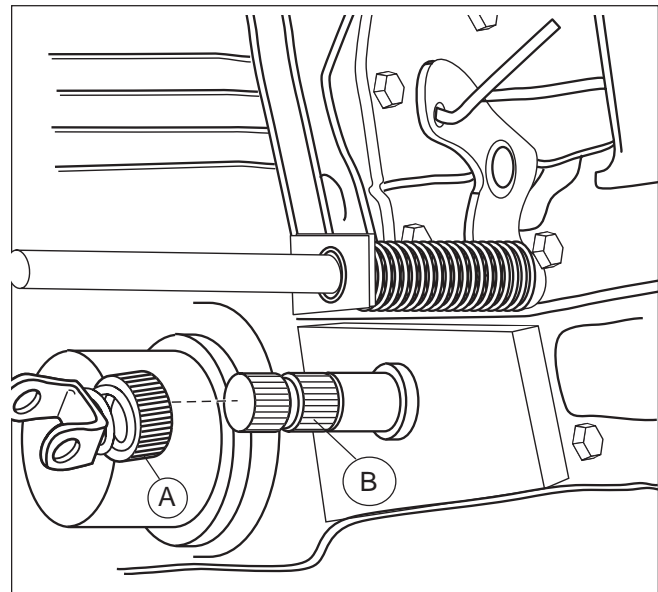

Figure 2
2. Slide the support bracket (B, Figure 1) in to the front hitch (C) about 1/2". Connect the locking collar (A, Figure 2). Pull back on the locking collar (A) and slide the drive shaft fully onto the transmission (B). Release the locking collar and pull back on the drive shaft until the locking collar locks onto the shaft.